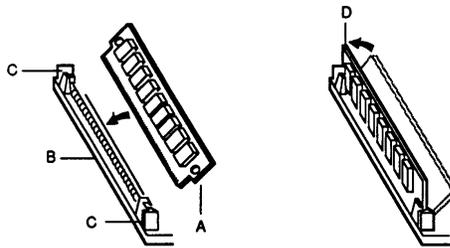

Figure A-3. Inserting the SIMMs into Sockets
4. Refer to Figure A-3. Holding the SIMM only by the edges (A), align the SIMM with its socket (B). The contact edge should be inserted into the socket first. The chips should be on the left side of the SIMM. Press down firmly while maintaining the angle of insertion.